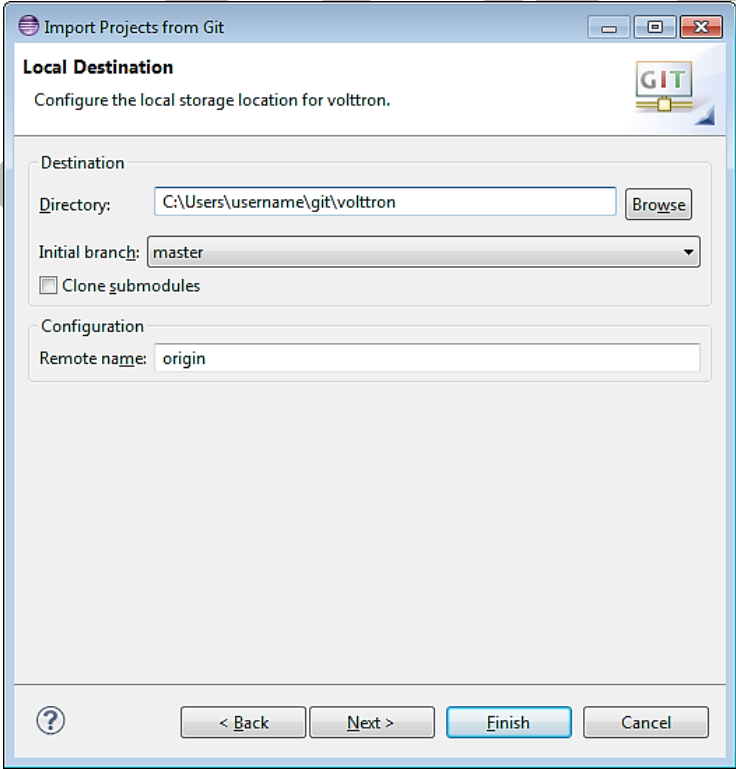

Figure 41: Checking Out Transactional Network with Eclipse (continued)
- Select a location to save the local repository (Figure 41)